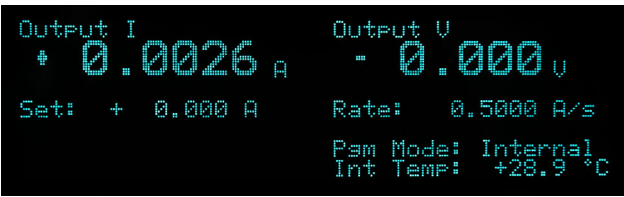

FIGURE 4-3 Model 648 display
The Model 648 has an 8 line by 40 character vacuum fluorescent (VF) display capable of showing both text and graphic images. The features displayed during normal operation include current measurement, voltage measurement, current programming, ramp rate, magnet water status, internal water status, program mode, and internal temperature. Other display configurations appear during parameter setting and data entry operations. These displays are illustrated in their individual operation paragraphs. A typical display is shown in FIGURE 4-3.